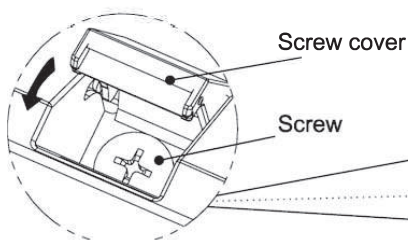

Fig. 25
- 11) Install the screws and close the screw covers as shown in Fig. 25. (Note: For some models, you need to install 3 screws.)